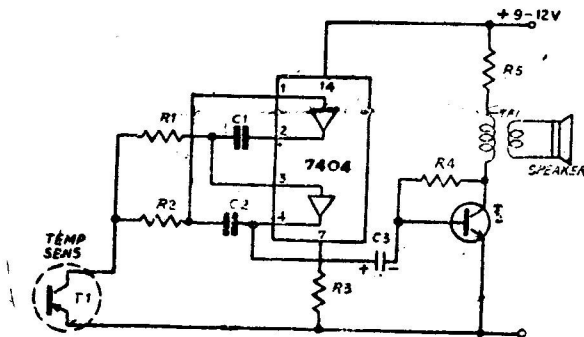

Fig. 32
*Circuit description :* (see figure 32)